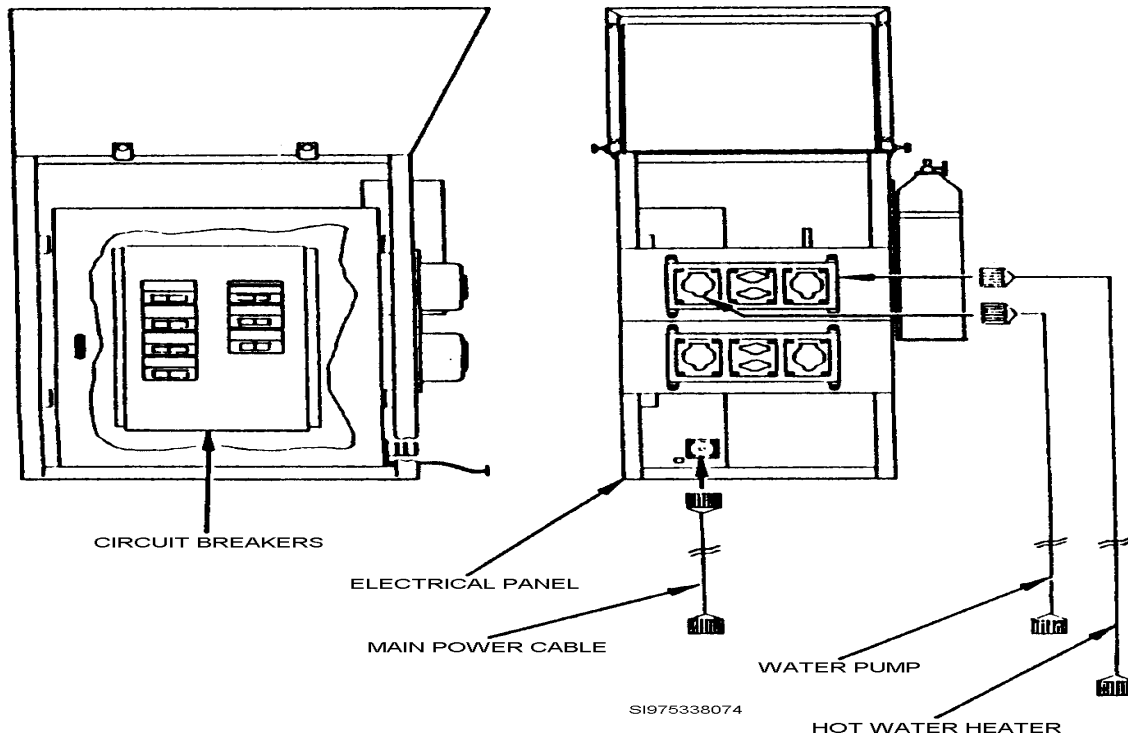

Figure 1, Laundry unit main power panel.
- An electrical panel which is mounted on the platform assembly provides power distribution to all components of the laundry facility. This panel includes the necessary circuit breakers, receptacles, and connecting plugs for powering facility components. The laundry unit can be powered from any number of reliable sources. However, it most likely gets its power from an SDC when it is deployed as part of the Harvest Falcon kit. This power supply energizes the distribution panel by way of the main power cable (fig. 1).